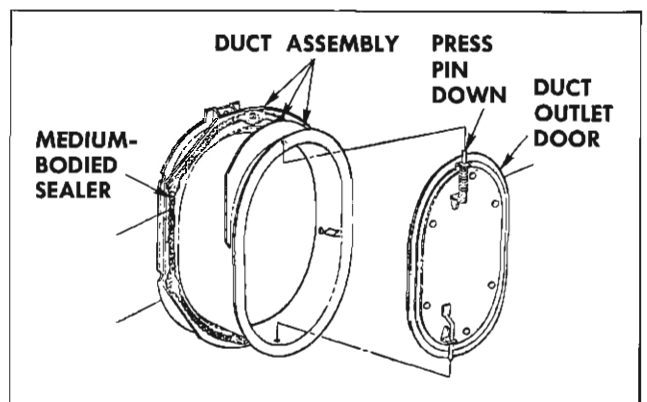

Fig. 11-15 Air Outlet Duct Assembly and Sealing
3. Remove screws securing outlet assembly to shroud side panel (Fig. 11-15) and remove assembly.
4. To install, apply medium-bodied sealer around entire inner flange of outlet assembly, to insure watertight seal to shroud, and reverse removal procedure (Fig. 11-15).
4. Depress upper door pin to disengage pin and remove door, (Fig. 11-15).